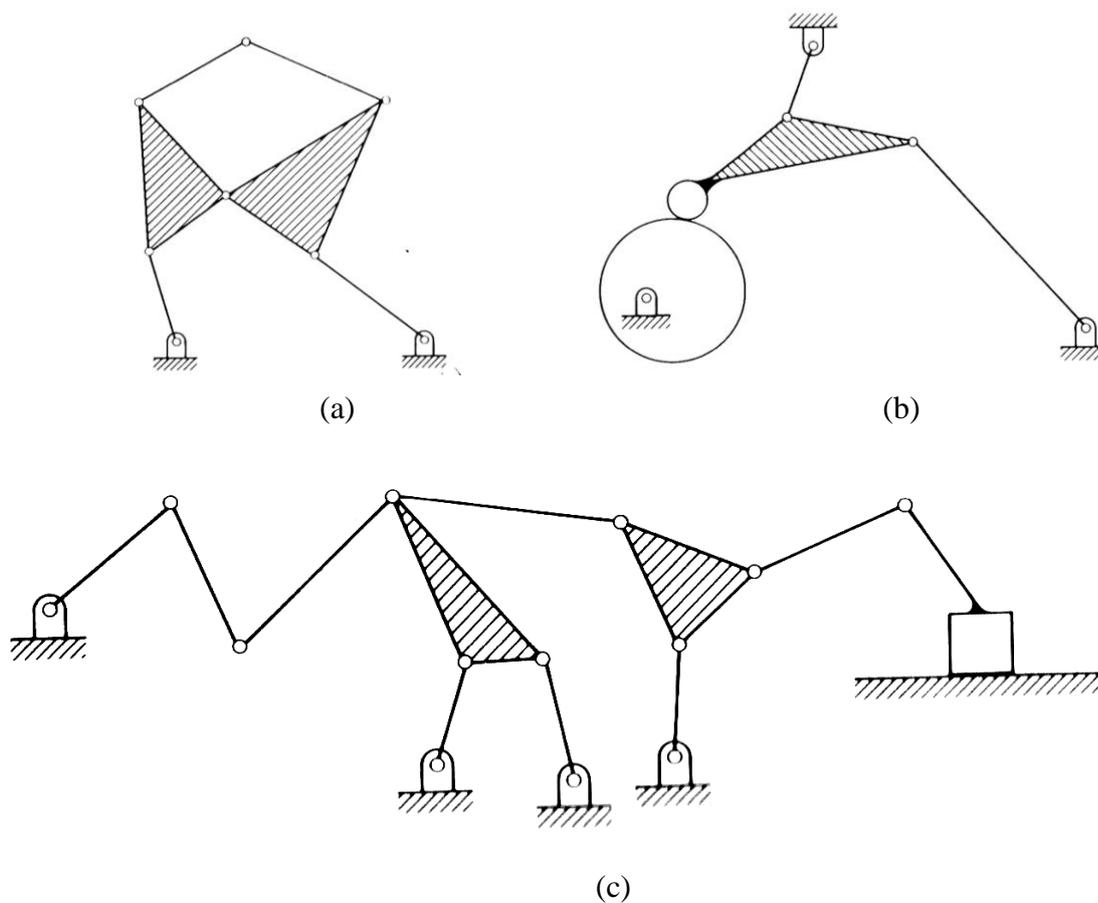

Fig. 1 Some mechanical devices
1. Determine the mobility (number of degrees of freedom) of the following mechanical devices shown in Fig.1.